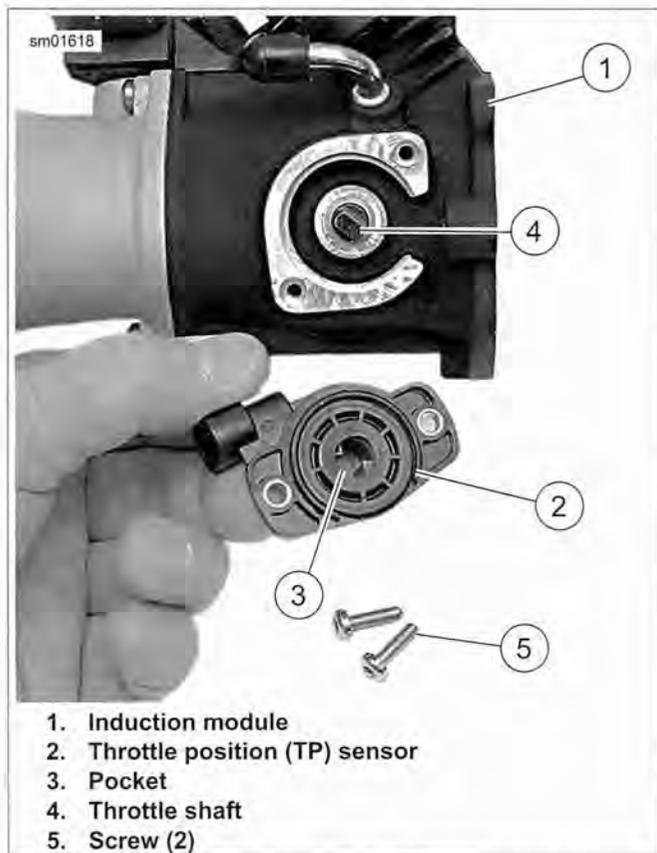

Figure 4-22. Throttle Position (TP) Sensor Installation: XL Models
1. See Figure 4-22. Fit pocket (3) of TP sensor (2) over throttle shaft (4). Orient TP sensor correctly and line up mounting holes in sensor with holes in body of induction module (1).
2. Make sure TP sensor body is flush against mounting boss on induction module body. Install two screws (5) to fasten sensor to induction module. Tighten screws to 35 in-lbs (4.0 Nm).